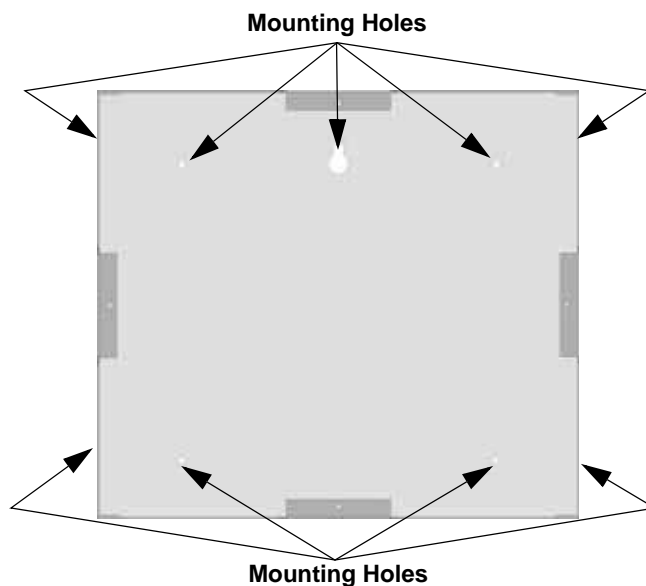

Figure 4-9 Back Box Mounting Holes
1. The back box dimensions are 9-9/32" w x 8-3/8" h. The minimum depth 2". The back box can be mounted prior to the complete installation of the RA-100 using any of the mounting holes shown in Figure 4-9.